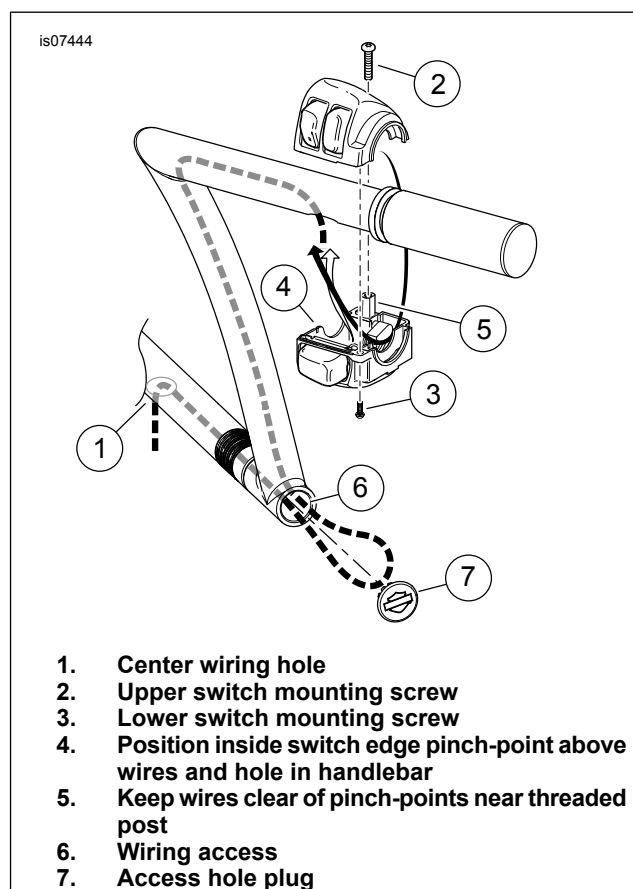

Figure 3. Switch Housing Wire Routing
7. See Figure 3. With the handlebar placed on a smooth, soft surface, grip ends upward, gently feed the right side switch wire bundle into the opening on the underside of the new handlebar and toward the large opening in the center of the bar.